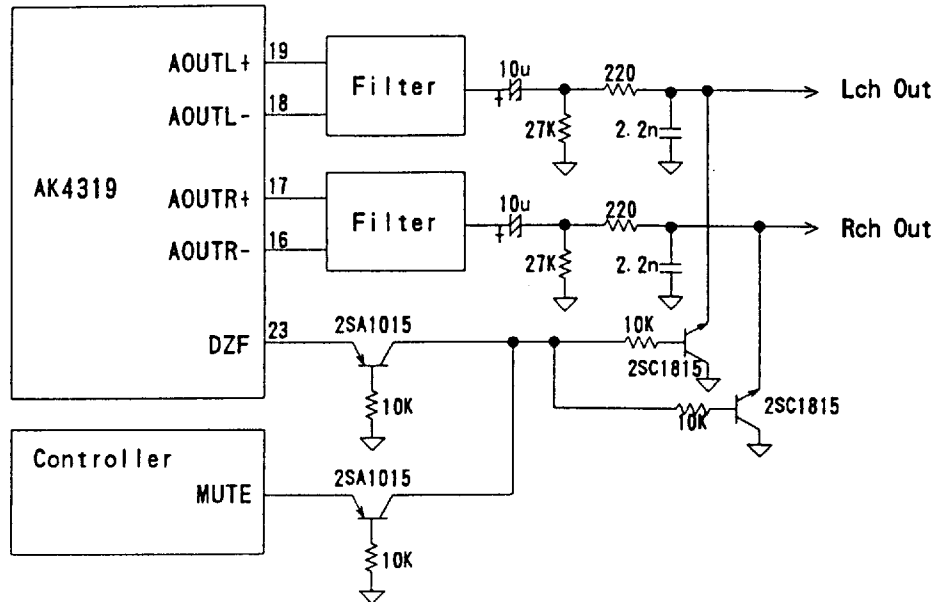

Figure 7. External mute circuit example
- ① Analog output has the group delay(GD).
- ② When power-down is initiated, analog outputs are set into Hi-Z. Outputs noise level is about -110dB.
- ③ Some -50dB of click noise occurs at the transition (" ↓ ↑ ") of PD pin.
- ④ When the master clock is stopped, the AK4319 should have been in the power-down mode.
- ⑤ If the click noise (③) is a problem, an external mute circuit which generates above timing (⑤) is needed. Please refer to Figure 7.
Some click noise may occur at the transition ("↑ ↓") of PD signal. The click noise of PD signal can be avoided by controlling the external mute circuit using the signal like ⑤ in Figure 6. The S/N of -110dB could be achieved by muting the analog outputs using DZF signal. The external mute circuit example is shown in Figure 7.